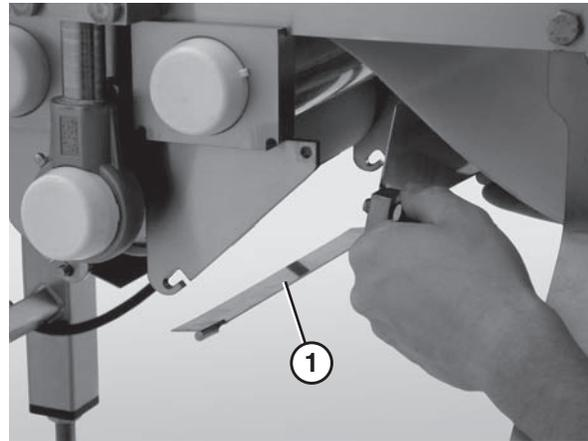

Figure 59
3. Lift up on the center drive guard (Figure 59, item 1) and remove it.